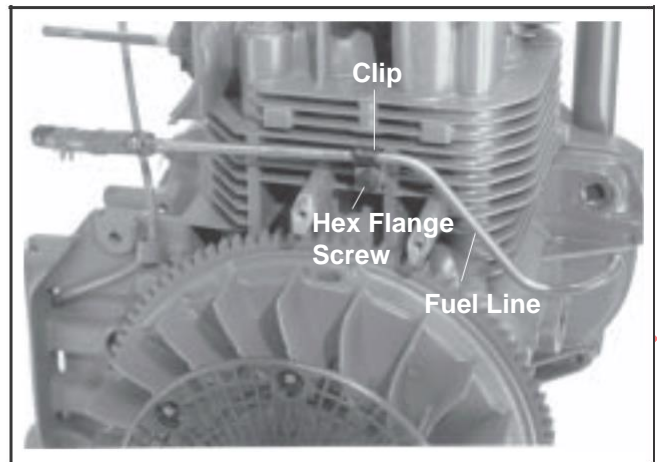

Figure 11-27. Installing Fuel Line.
1. Install the fuel line, clamp and hex flange screw. See Figure 11-27.